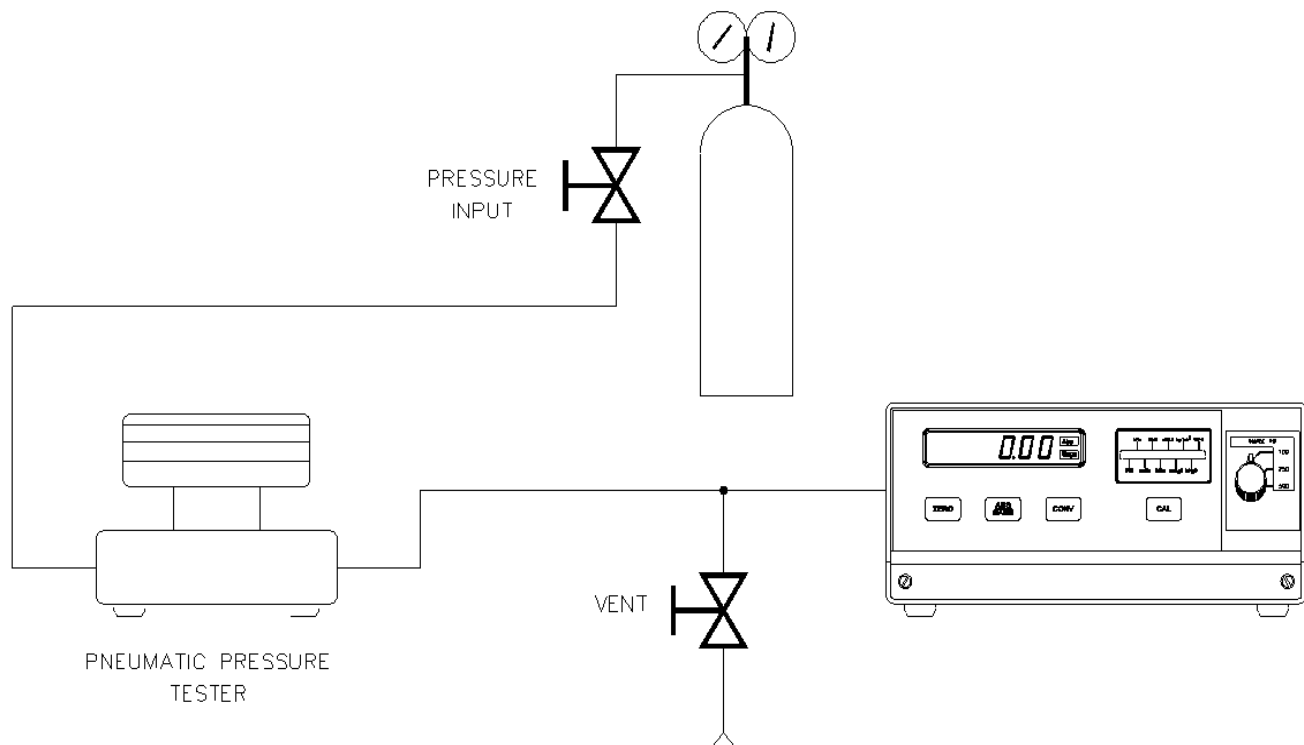
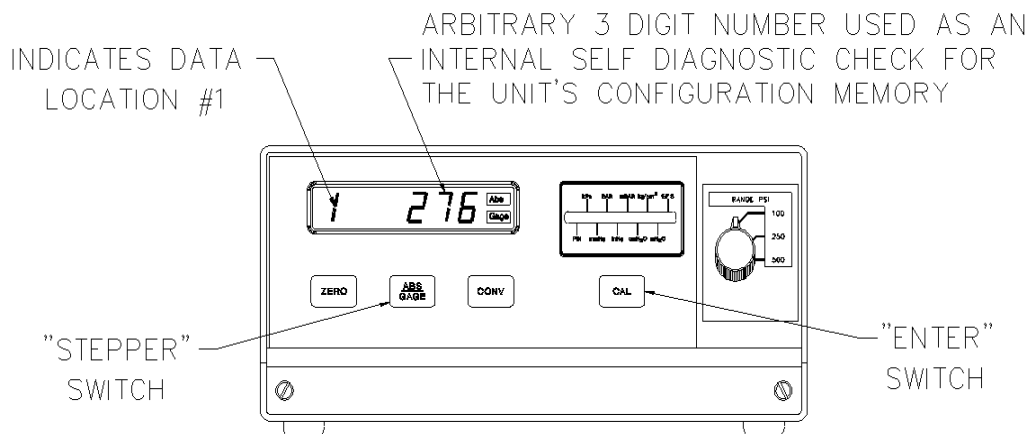
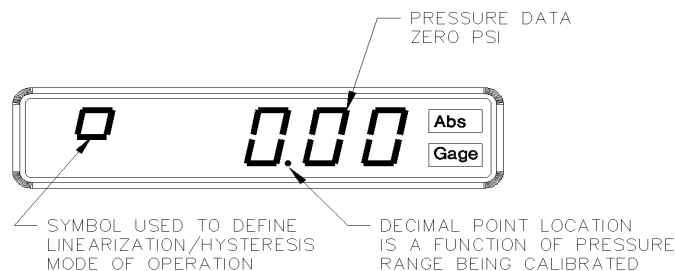
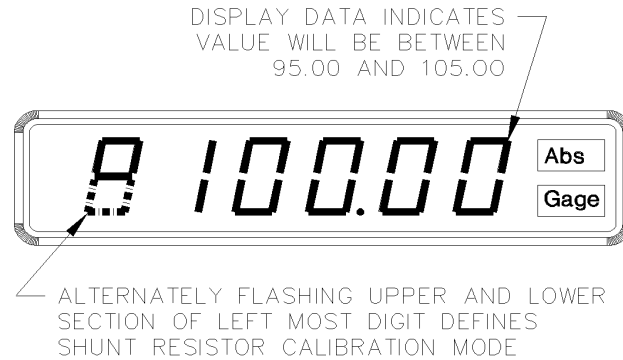

Figure 3-1. Instrument Calibration Set-Up
Figure 3-2. Calibration Keys
Figure 3-4. Linearity and Hysteresis Calibration
Figure 3-5. Shunt Resistor Calibration
3. See Figure 3-2 on page 20 for “STEPPER” and “ENTER” switch locations.
Figure 3-1 defines a typical gage or absolute/gage calibration set-up using a floating piston type dead weight tester. While doing an ABSOLUTE Only Unit calibration, a vacuum pump with an indicator capable of reading PSIA will be required where the dead weight tester/pressure source is shown in Figure 3-1. This enables going below local barometric pressure.
To permit proper calibration at least an "ON/OFF" and a "VENT" valve, connected as shown in Figure 3-1 must be provided.
Figure 3-2 depicts the location of the above described front panel switches as well as showing the display format obtained as soon as the unit has been placed in the CALIBRATE mode.
The unit can be placed in LINEARIZATION/HYSTERESIS mode by pressing the STEPPER push-button under the middle of the display as shown in Figure 3-2. The display is shown in Figure 3-4.
Press the **STEPPER** push-button again to select the *SHUNT RESISTOR CALIBRATION* mode. The display will be as shown in Figure 3-5.
4. Press the **ENTER** push-button switch, as shown in Figure 3-2 on page 20, on the front panel. If accepted, the bottom half of all display digits will momentarily illuminate.
1. Pressing the **STEPPER** push-button again, as shown in Figure 3-2 on page 20, will bring the indicator back to its initial Data Recall display condition as shown in Figure 3-2.
See "Case Removal and Installation" on page 28. See Figure 2-7 on page 8 for S3, **CALIBRATE/OPERATE** configuration switch and S2 "DATA ENTER" switch location. See Figure 3-2 on page 20 for **STEPPER** and **ENTER** push-button switch locations.
1. Connect Test Standard to UPS3000/UPS3210 Input Port similar to Figure 3-1 on page 19.
3. Using the **RANGE SELECT** switch (6), select the lowest pressure range on the UPS3000/UPS3210.
4. Press the **ENTER** push-button, as shown in Figure 3-2 on page 20, on the UPS3000/UPS3210. The display reads zero. Repeat this step for the middle and high ranges.
8. Using the **STEPPER** push-button, as shown in Figure 3-2 on page 20, place the unit into *SHUNT RESISTOR CALIBRATION* mode. The display will be as shown in Figure 3-5 on page 23.
9. With UPS3000/UPS3210 **RANGE SELECT** switch (6) switched in the high range, depress the **ZERO** push-button on the front panel. Verify that the display reads 0.00. Upon release of the push-button the display will be as shown in Figure 3-5 on page 23.
11. Pressing the **STEPPER** push-button bring the indicator back to its initial Data Recall display condition as shown in Figure 3-2 on page 20. The display shows 1 XXX (three arbitrary digits).
4. Close the *VENT* valve (12). Select the lowest pressure range of the UPS3110.
5. Turn the *VERNIER* (11) of the UPS3110 clockwise, creating a pressure until the display reads the value of the Positive Delta Pressure, 0.15 PSI as in this example.
6. Depress the **ENTER** push-button on the UPS3110. The display reads zero. Without touching the *VERNIER* (11) knob repeat this step for the middle and high ranges.
7. Using the **STEPPER** push-button, as shown in Figure 3-2 on page 20, place the unit into *SHUNT RESISTOR CALIBRATION* mode. The display will be as shown in Figure 3-5 on page 23.
8. With UPS3110 **RANGE SELECT** switch (6) switched in the high range, depress the **ZERO** push-button on the front panel. Verify that the display reads 0.00. Upon release of the push-button the display will be as shown in Figure 3-5 on page 23.